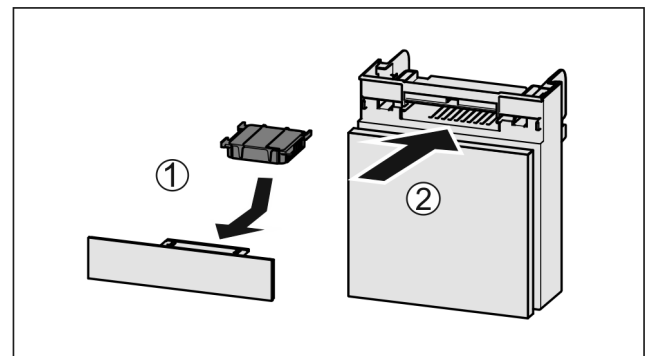

Fig. 161
- Insert the carbon filter as shown in the diagram Fig. 161 (1).
- Push the compartment in Fig. 161 (2).